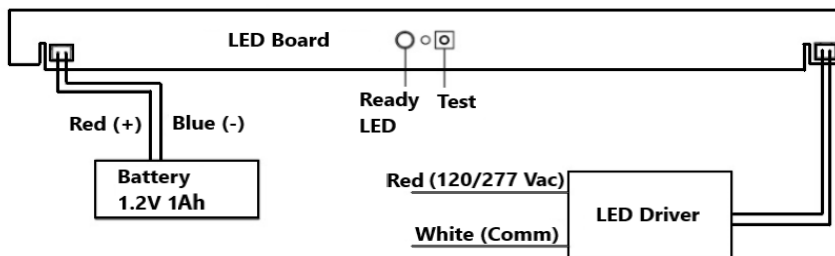

Figure 1 - Wiring Diagram
- Ensure that power is off, then connect the power supply (120/277 VAC) to the appropriate input wires, using the provided wire nuts, according to the wiring diagram in "Figure 1."
- Insert plastic clips to the plastic bracket, then mount the plastic bracket to the metal bracket, using two (2) provided screws.
- Ensure that power is off, then connect the power supply (120/277 VAC) to the input wires, using the provided wire nuts, according to the wiring diagram in Figure 1.